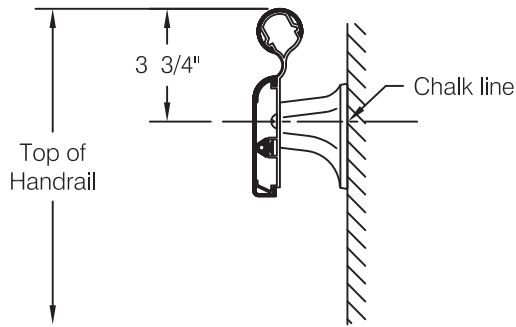

fig 1
**Step 1:** Determine top of handrail height and snap a chalk line 3 3/4" below for centerline of mounting hardware, see **fig 1**.